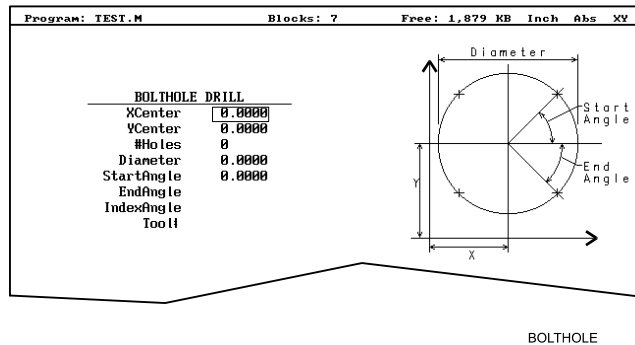

Figure 4-7, BOLTHOLE DRILL Graphic Menu
2. Select **Bolt Hole** from the pop-up menu and press **ENTER** to display the **BOLTHOLE DRILL** Graphic Menu. Refer to **Figure 4-7**.